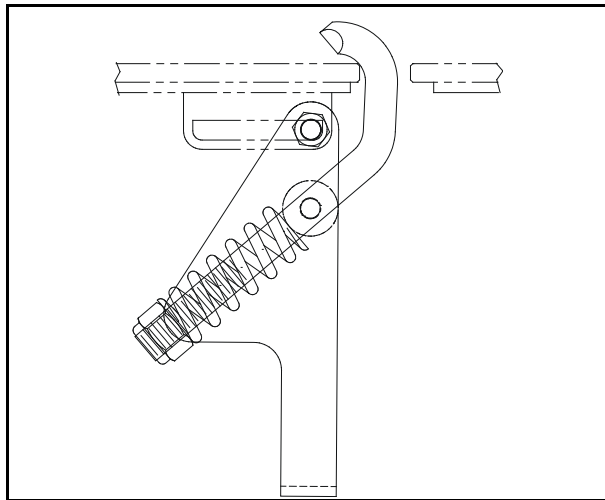

Figure 4-10 *Vector-Lock Clamping Procedure*
5. Continue rotating the handle in the same direction until it snaps in place (Figure 4-10). If the hook pops out of the hole, or if it is difficult to clamp the screen, check for the following: